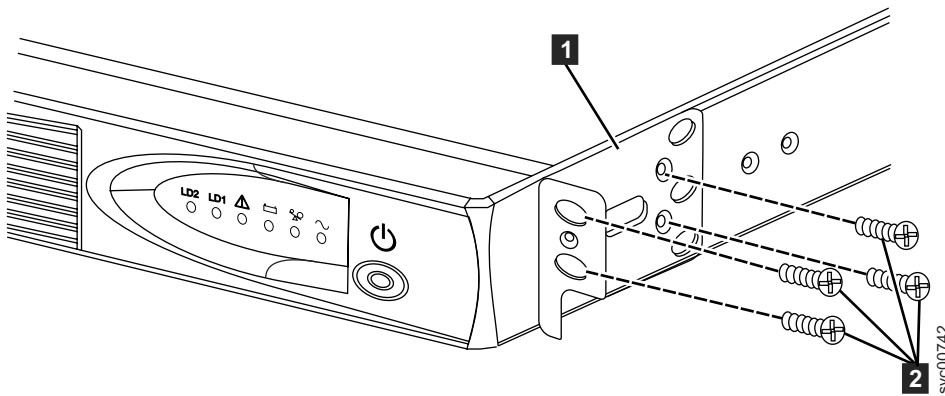

Figure 8. Installing the 2145 UPS-1U mounting brackets for the 2145 UPS-1U
3. Attach the long side of a mounting bracket **1** to each side of the 2145 UPS-1U using four M3 × 6 screws **2** for each bracket, as shown in Figure 8.